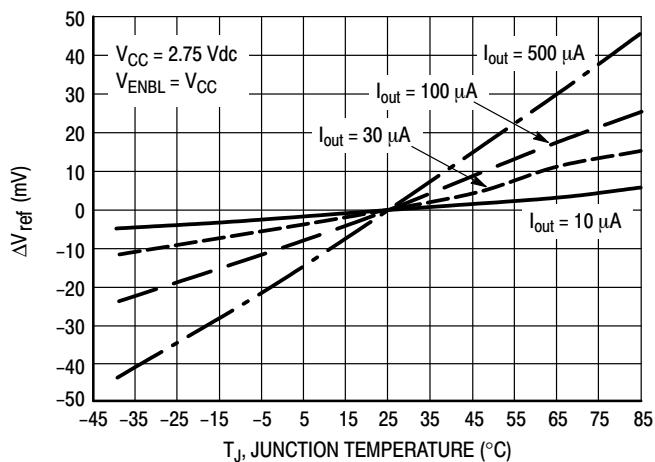

Figure 2. ΔV_{ref} versus T_J @ I_{out}
- Step 4: Choose I_{out} keeping in mind that too large an I_{out} can impair MDC5000 $\Delta V_{ref}/\Delta T_J$ performance (Figure 2) but too large an $R6$ can cause I_{DGO} & I_{GSO} to bias on the FET.